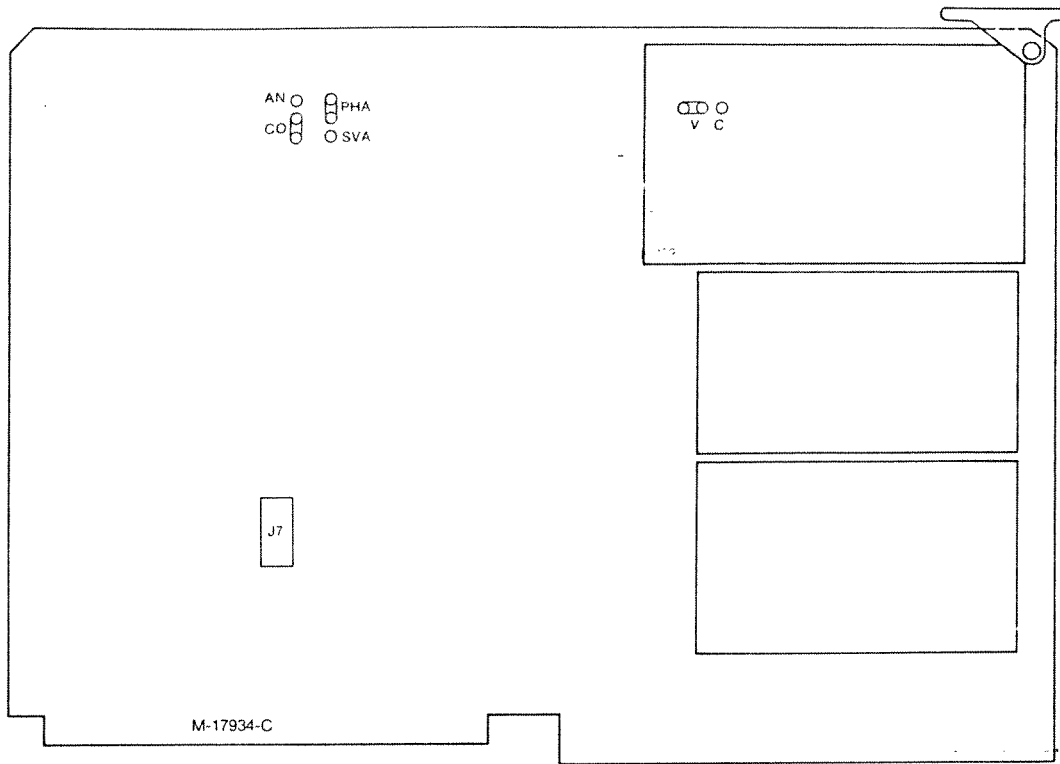
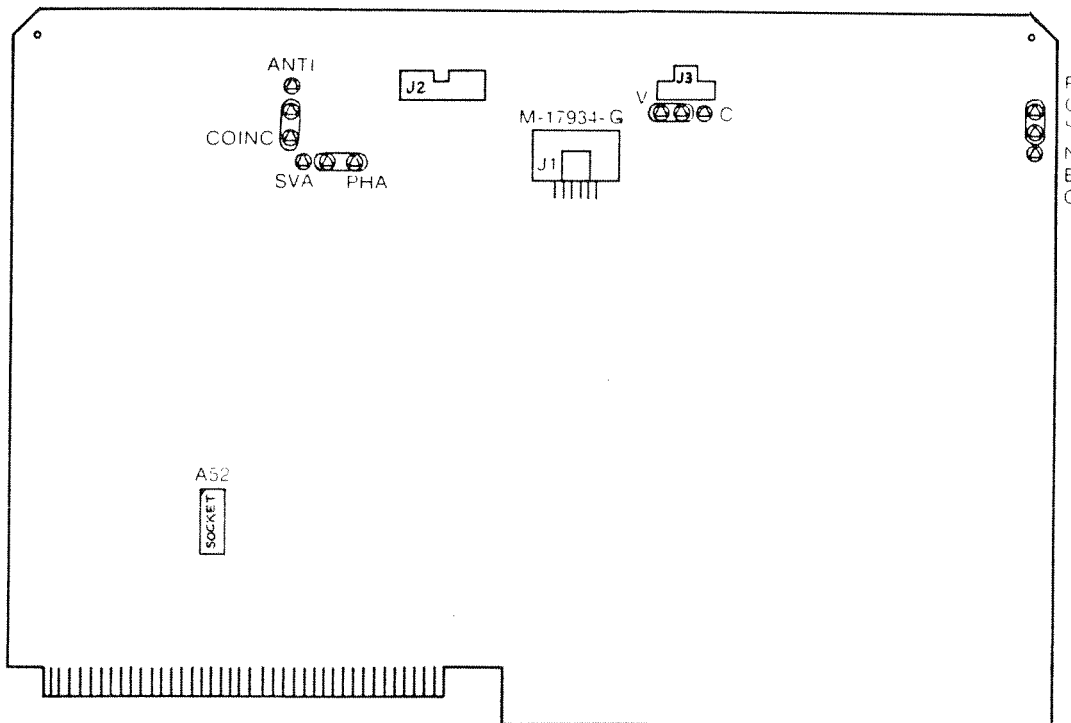

Figure B-10a
Figure B-10b
8. Install one of the DIP jumper plugs in J7 on early ADC Boards (see Figure B-10a) or in A52 on Revision G or later ADC Boards (see Figure B-10b). The plug used must match the Analyzer's memory size.